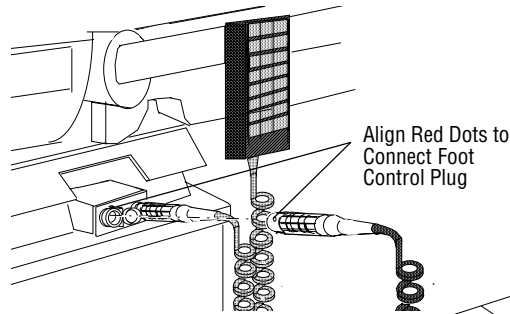

Figure 3-5. Foot Control Connection
2. Push plug into connection (see Figure 3-5).